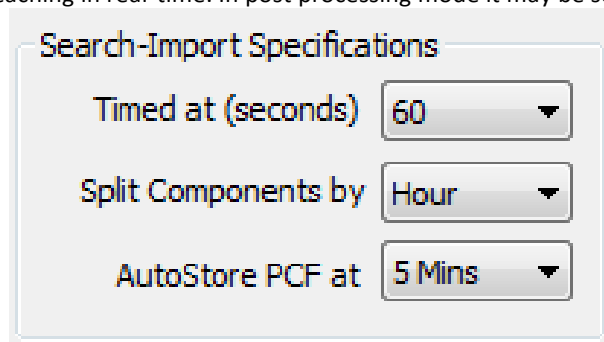

Figure 5-78: Streamer leach search and import configuration
N.B. The Timed at combo-box choice in the streamer leach dialog (Figure 5-78) should be set to the same value as the File Search interval when leaching in real-time. In post processing mode it may be set to a lower value.
The multiple array streamer leach may involve significant demands on the memory of the computer if the File search interval is set too long. See comparison in Figure 5-78. However, a longer time interval can reduce the percentage of SEGYS that are re-read each time and the number of directory searches that are performed, improving efficiency.